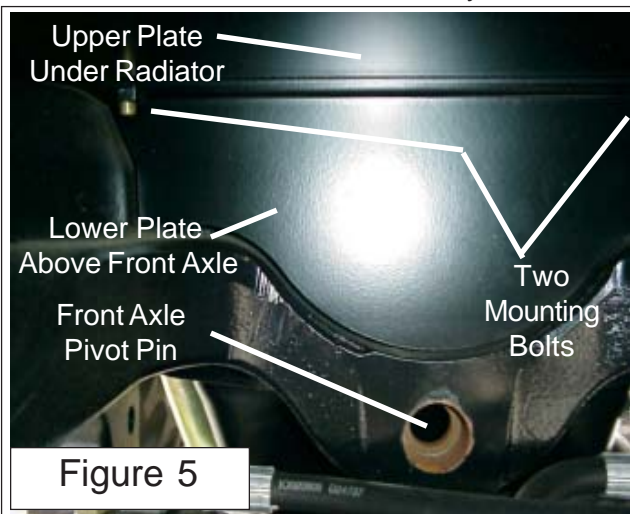

Figure 5
3. Remove the lower Bolster Cover Plate. The lower bolster cover plate is accessible from the bottom side of the tractor behind the bolster and engine (See Figure 5). This plate bolts to the top plate that is under the radiator, the lower plate must be completely removed from the under side and will not be reused. Note: the front axle pivot pin is shown as reference only, DO NOT remove it.